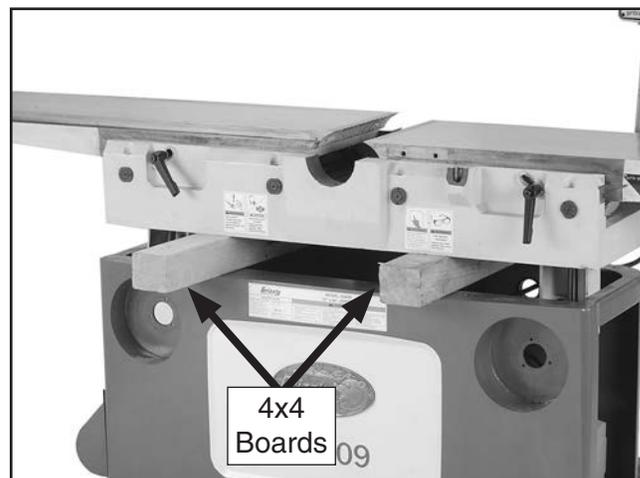

Figure 7. Jointer bed supported with 4x4s on both ends.
16. Repeat **Step 15** on other side to support outfeed table (see **Figure 7**).